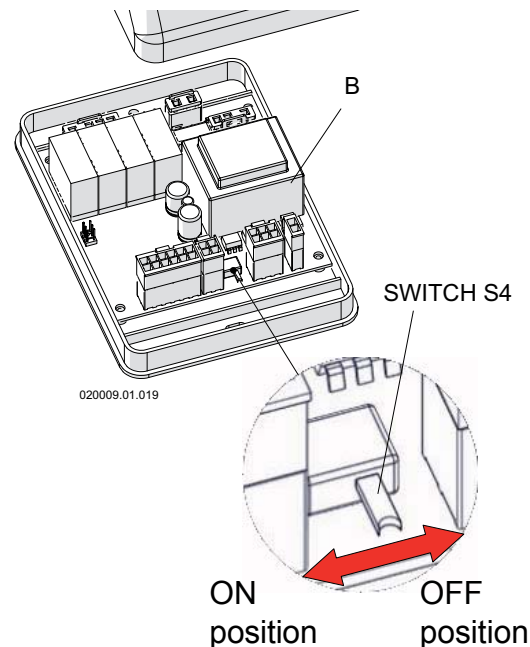

Figure 10-8 MODBUS board and “Switch S4”
3. - Move selector S4 of the MODBUS interface (item 13 on Figures 3-3, 3-5, and 3-8), in the ON position (see Figure 10-8).